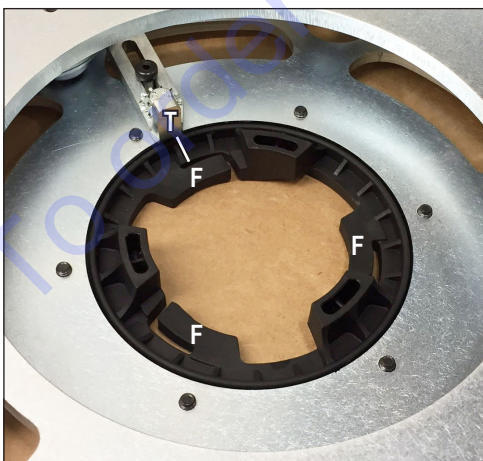

FIG. 4
4. Orient the nylon clutch (P/N 403978) so that any one of the (3) clutch fingers (F) lines up with the locking tab (T). See Figure 4.
5. Tighten the (6) screws to 14 ft-lbs using a 4mm Allen wrench.